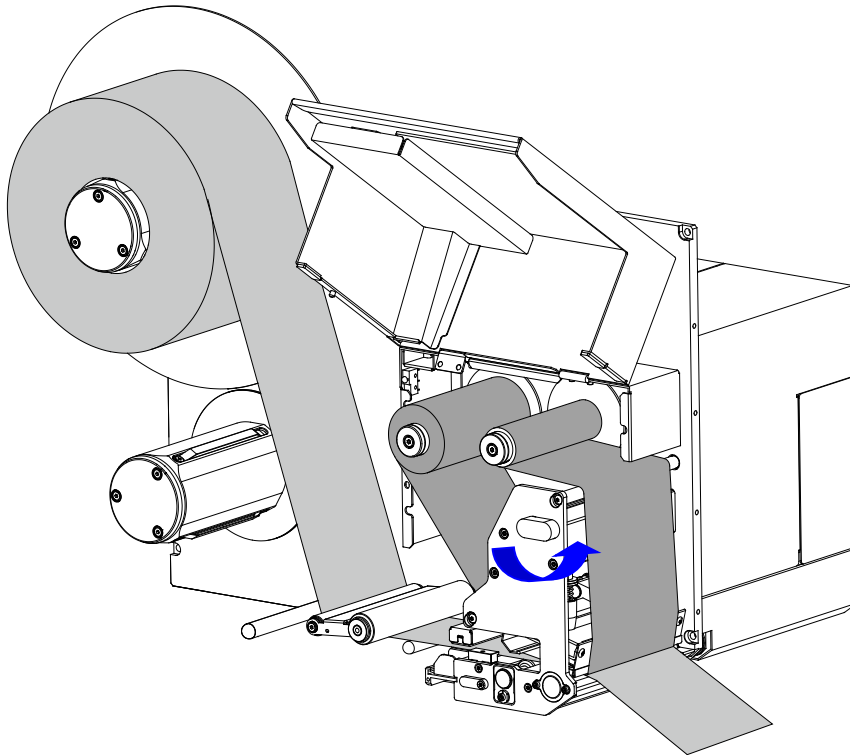

Figure 2-25 Lock the Printhead
5. Turn the Printhead Handle clockwise to lock the Printhead in place, as shown in Figure 2-25.